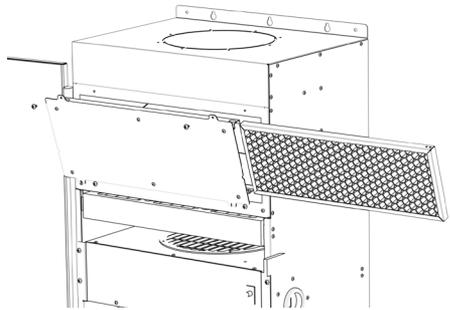

Fig. 6 Slide out PCO filter.
2. Slide the PCO filter out of the rack and replace with the new filter. See Fig. 6.